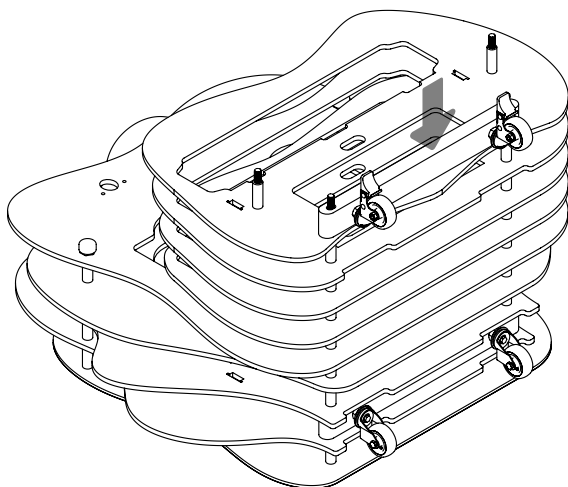

Figure 3.
- Please note, between panels 2-3 and 9-10 the lower spacers must be replaced with the wheel joists (Figure 3).